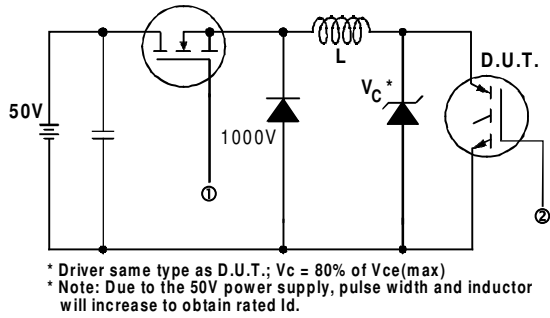

Fig. 13a - Clamped Inductive Load Test Circuit
- ② $V_{CC} = 80\%(V_{CES})$, $V_{GE} = 20V$, $L = 10\mu H$, $R_G = 23\Omega$, (See fig. 13a).
- ③ Repetitive rating; pulse width limited by maximum junction temperature.
- ④ Pulse width $\leq 80\mu s$; duty factor $\leq 0.1\%$.
- ⑤ Pulse width $5.0\mu s$, single shot.